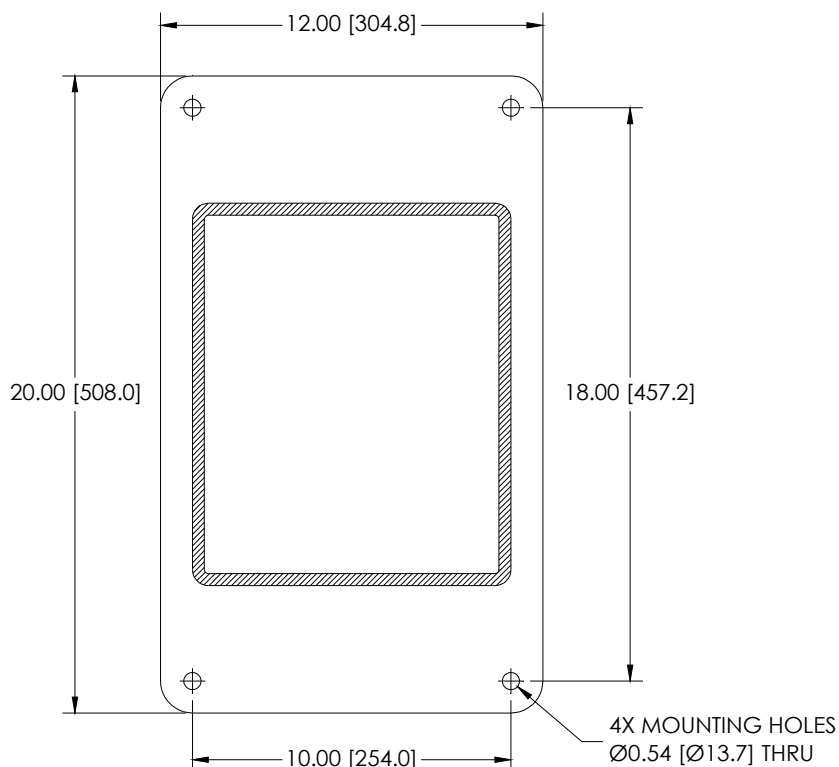
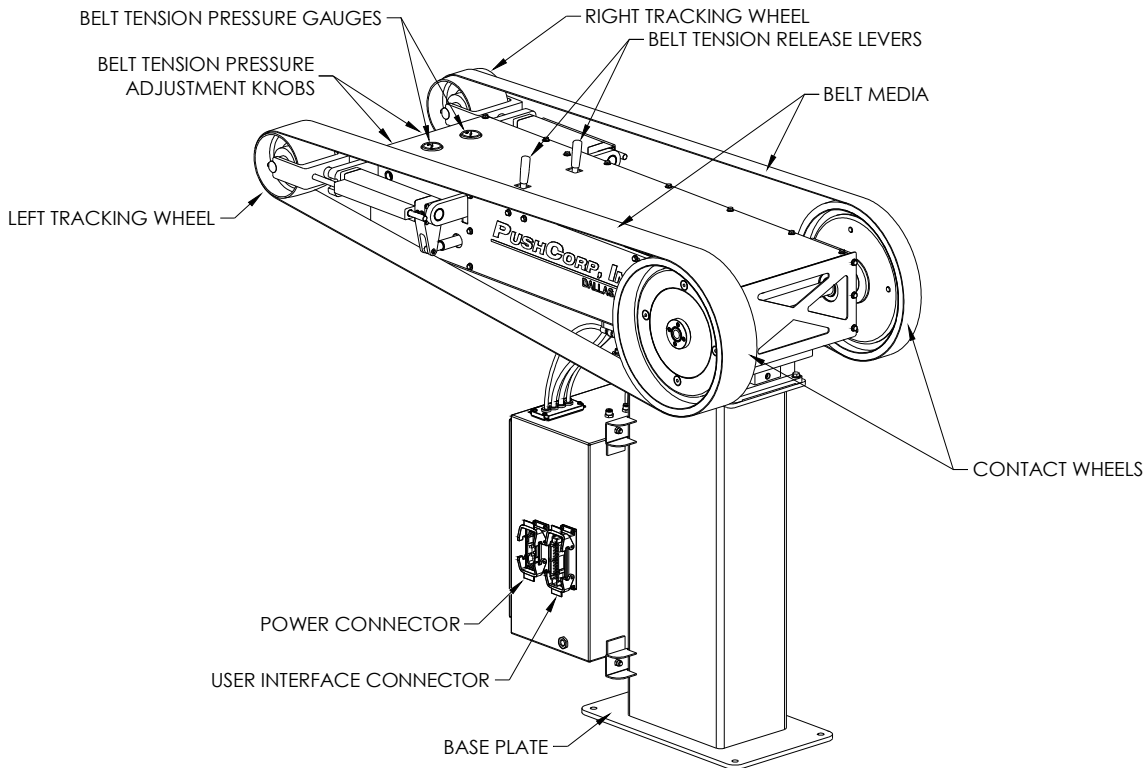

Figure 1. SBS81 Base Plate
Figure 4. SBS81 Belt Stand
The SBS81 Servo Belt Stand is secured by four (4) fasteners passing through mounting holes located in the Base Plate (See Figure 4). The Base Plate mounting hole locations are shown in Figure 1. The SBS81 must be securely mounted to keep the unit from moving during operation. The unit must be mounted level to achieve the desired force output at the Contact Wheels. A spirit level can be placed on the top of the Belt Stand and shims can be inserted under the Base Plate as required.
The SBS81 uses 2”, 3”, or 4” wide by 132” long Belt Media. To install new Belt Media, verify the servo motor and robot are disabled, then position the Belt Media Tension Release Lever towards the Contact Wheels of the SBS81, which releases the tension on the Belt Media. Install new Belt Media over the Contact Wheel and the Tracking Wheel as shown in Figure 4. Then tension the Belt Media by positioning the Belt Tension Release Lever to its rearward position. To remove the Belt Media reverse the previous steps.
Proper tension is required for each Belt Media width and type. The Belt Tension Pressure Adjustment Knobs are located at the rear of the machine, see Figure 4. The Belt Media tension should never be adjusted while the machine is operating. Belt Media Tension Pressure Gauges are located on the top of the machine to allow accurate setting of the pressure. The following chart is only a guideline for proper Belt Media tension pressures. The user is responsible for contacting the Belt Media manufacturer for the correct Belt Media tension.